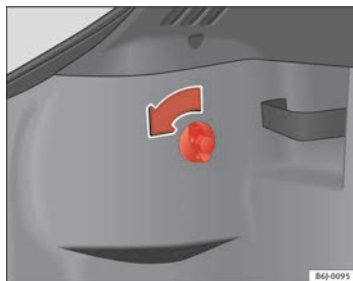

Fig. 144 Access to rear lights
- Turn the bolt in the direction of the arrow, by hand or with a screwdriver ⇒ fig. 144.
- Remove the connector from housing (A) ⇒ page 215, fig. 144.